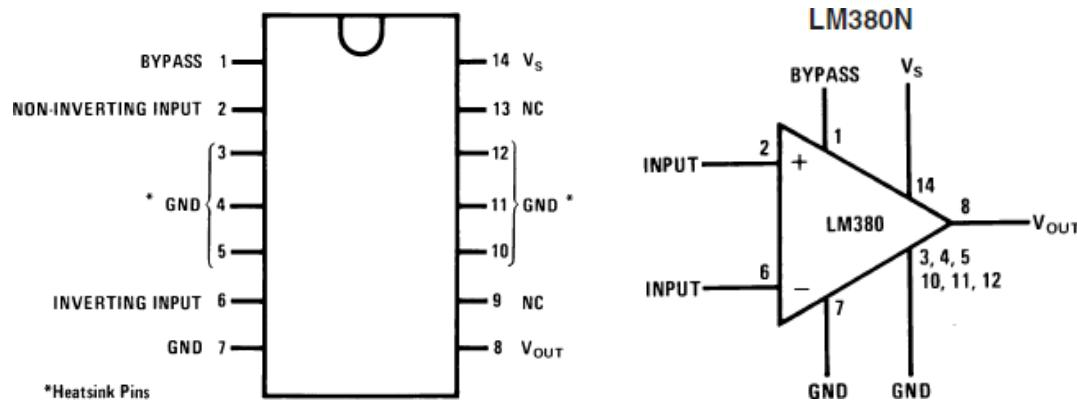

Figure 1: LM380N Power Amplifier IC
The PA is the core to provide the required gain and power amplification to drive the load (speaker). A suitable integrated circuit (IC) for the PA subsystem is LM380N whose pin diagram is shown in Figure 1. This IC is to be powered by a single power supply of +15V. The voltage gain is internally fixed at 34dB (50).